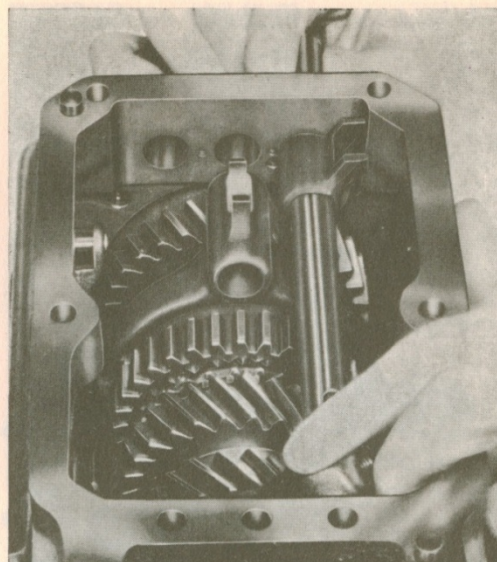

**Fig. 3-30. Fitting ball bearing on input shaft**
4. Press the bearing (64) onto the input shaft with the help of drift SVO 2412 see Fig. 3-30. Select a locking ring of suitable thickness and fit it. Place the 14 bearing rollers for the mainshaft in position on the input shaft. Use grease to keep the rollers in position. Press the input shaft into position in the housing. Press the sealing ring (66) into the cover (67) with drift SVO 2010. Then fit the cover over the input shaft.
6. Turn the transmission upside down. Fit the countershaft (2) from the rear. Hold locating tool SVO 2303 with the hand. Ensure that the thrust washers do not fall down.